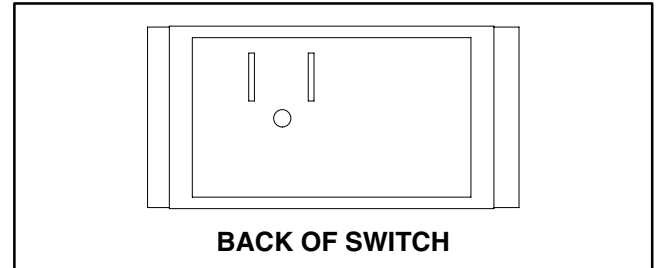

Figure 9
2. The switch terminals are marked as shown in Figure 9. In the ON position, continuity should exist between the two terminals. In the OFF position, there should be no continuity between the switch terminals.